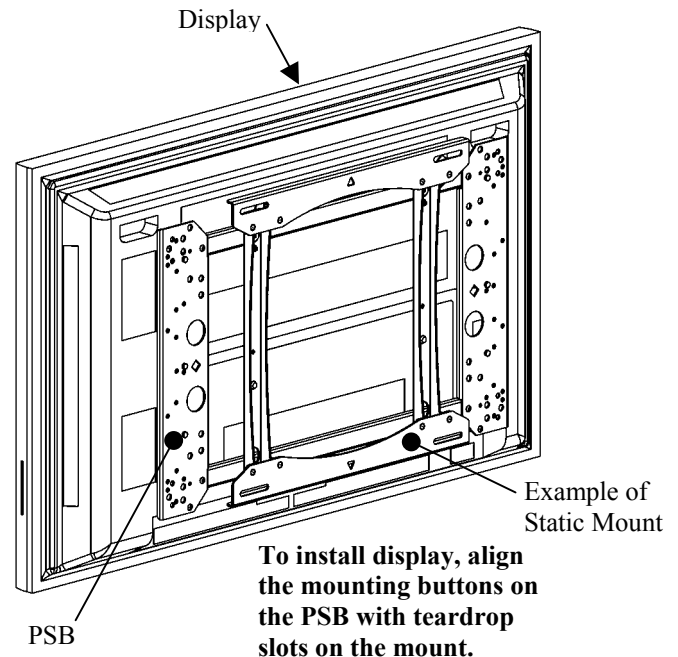

Figure 5. Mount Plasma Static Bracket to Wall
- To help you identify the correct PSB (see Figure 5) that matches the model number of your display, refer to the cross-reference chart at www.chiefmfg.com.